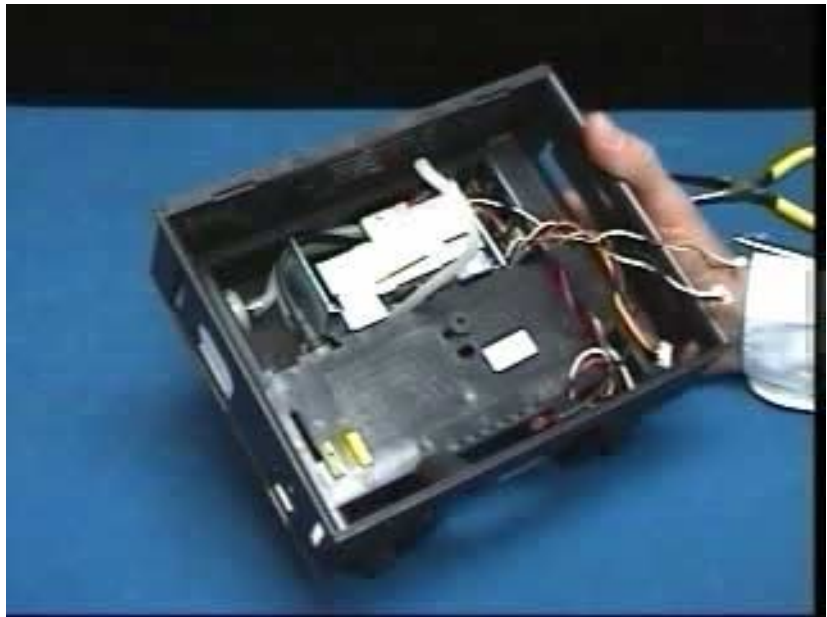

Figure 3-16 Location of NBP Subassembly in Rear Housing
Refer to Figure 3-16. Remove NBP Subassembly as follows:
Note: Route transducer hose behind cuff connector hose and then through hole in lower section of assembly so that the hose exits under manifold subassembly as in Figure 3-16. Position air intake hose beside cuff connector hose. Ensure all hoses are not constricted or pinched when sliding NBP Subassembly into place in cavity in rear housing.
There are two NBP air filters – an air intake filter (② in Figure 3-16 and in Figure 3-18, also see ① in Figure 3-17), and a manifold filter (① in Figure 3-18). The first is accessible from the top of the battery compartment; and does not require that the monitor be opened. The second is located in the manifold subassembly itself.